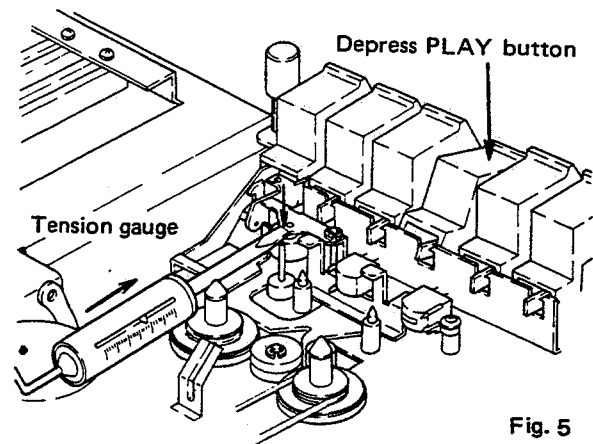

Fig. 5
2. Refer to Fig. 5. Using the tension gauge, apply pressure to the pinch roller and note the reading when the roller separates from the capstan. This reading should be 300 ~ 400 grams. If the reading falls outside this range, shift the anchor end of the pinch roller spring to a different hole to effect adjustment.